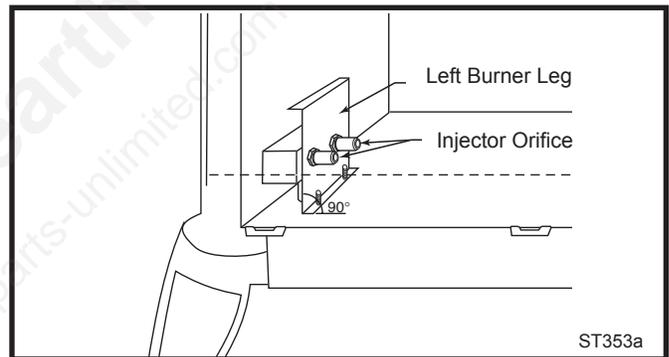

Fig. 62 Remove and replace injector orifices.
- NOTE:** It is very critical to keep the left burner leg, which holds the injectors, at a 90° angle to the base. (Fig. 62) This keeps the orifices aligned with the tubes inside burner. Failure to do so could affect the flame appearance and performance of the unit.